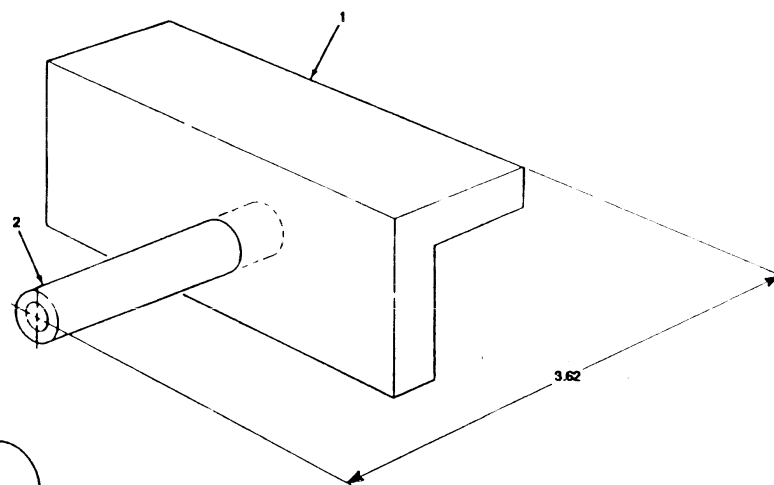

FIGURE 3-10
3. Press bushing (2) into fixture hole (1). (see figure 3-10)